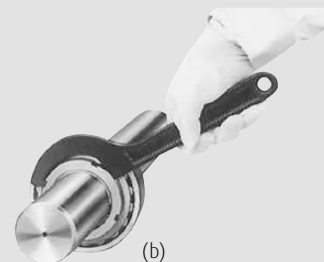

Fig. 2.7 Bending method for lock-washer tooth
3. To stop turning of the lock nut, mate one lock-washer tooth to the slit on outside of lock nut, then, bend that tooth with chisel. **(Fig. 2.7)**